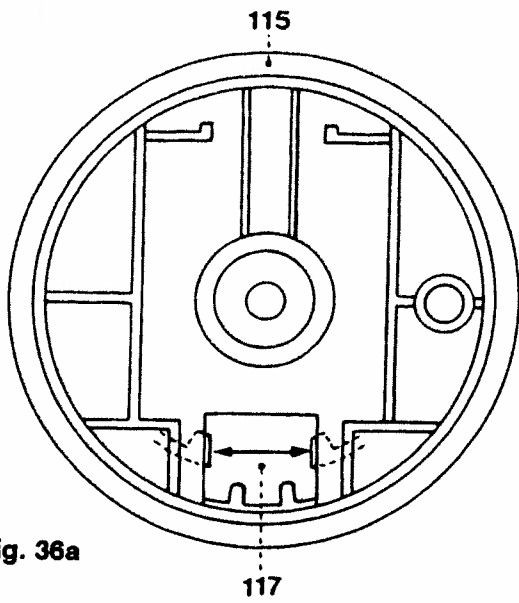

Fig. 36a
- Turn handwheel 115 and clutch disc 116 until the hole in the handwheel and the cutout in the clutch disc are facing downwards (fig. 36a).